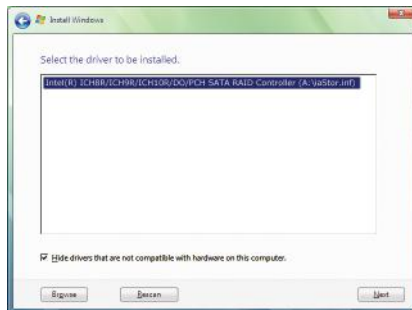

Figure 6
When a screen as shown in Figure 6 appears, select **Intel(R) ICH8R/ICH9R/ICH10R/DO/5 Series/3400 Series SATA RAID Controller (A_Va)stor.inf** and click **Next**.